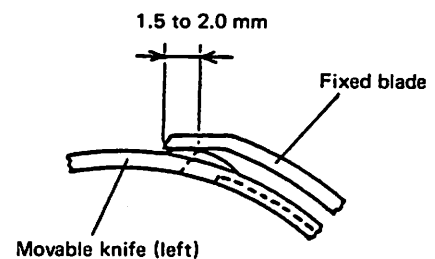

Fig. 13
(2) Adjustment of knife engagement amount
① Set the solenoid to the operation state and rotate the sewing machine. Then, the movable knife (left) is rotated by the thread trimmer cam. When the movable knife (left) has moved to the maximum, the standard engagement amount is 1.5 to 2.0 mm. See Fig. 13.